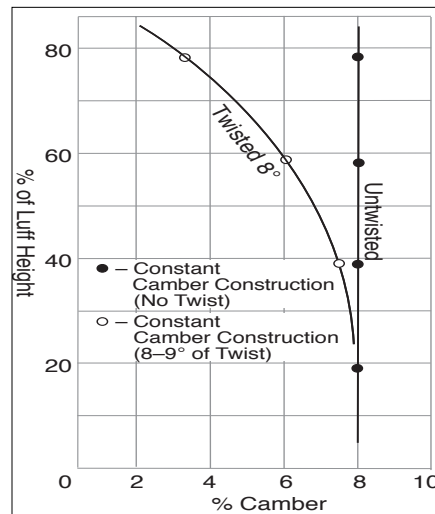
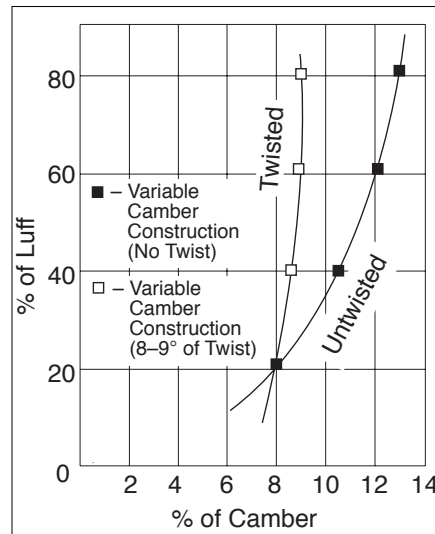

Figure 4
Figure 5
Follow the directions in the first article for calculating percent-camber. Plot the data as shown in Figures 4 and 5. This data will be for an untwisted sail.
There are two kinds of sails being produced today: 1) Constant camber sails that have the broad-seaming in each panel joint the same, producing an untwisted sail in which the camber is constant with height (Figure 4, "Untwisted") and 2) Variable camber sails in which different broad seam configurations in each panel joint make a sail in which camber varies with height (Figure 5, "Untwisted"). Some commercial varieties of this second configuration are labeled High Twist (HT) sails.
If, however, each sail is adjusted so that there is an 8–9 degree twist between the 20% chord and the 80% chord, the plot of camber versus luff height becomes as shown in the "Twisted" plots in Figures 4 and 5. Both sails respond